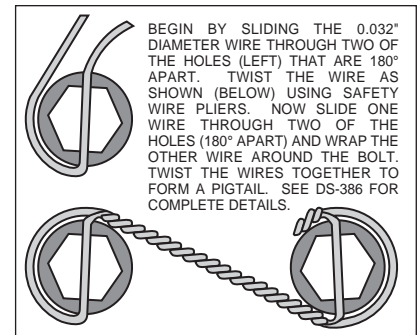

Figure 4. Safety Wire Diagram
•With the larger I.D. side of the rotor (5) facing away from the hat (6), bolt rotor (5) to hat (6) through the backside of the rotor using washers (7) and bolts (8). Using an alternating sequence, apply red *Loctite*® 271 to the threads and torque bolts to 155 **in-lb**. For an added measure of security, the bolts may be safety wired using standard 0.032 inch diameter stainless steel safety wire as shown in Figure 4. Please refer to Wilwood's data sheet DS-386 (available at www.wilwood.com/Pdf/DataSheets/ds386.pdf) for complete safety wire installation instructions. Slide the rotor/hat assembly onto the hub. Install a couple of lug nuts (finger tighten) to keep the rotor/hat assembly in place while continuing with the installation.